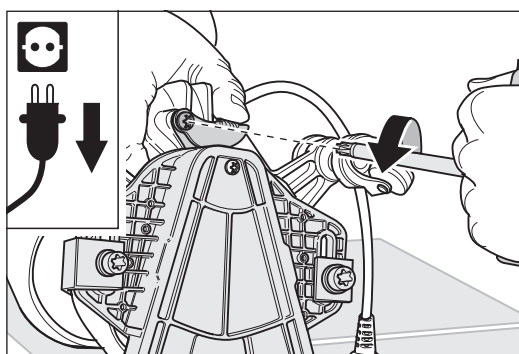

Fig. 36 Undo the screw which attaches the belt tightening plate.
- 4 Use the universal spanner to undo the screw which attaches the belt tightening plate (fig. 36).